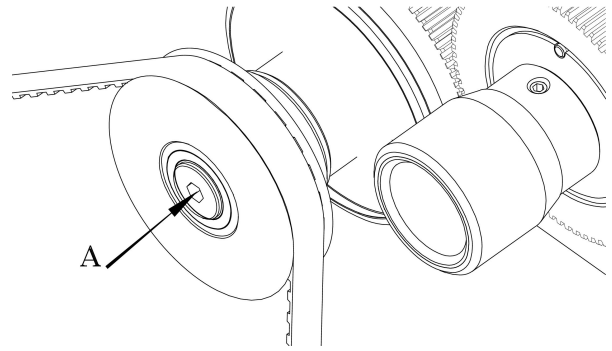

Fig 1
The nylon gear (A) in Fig 1 is designed to slip when the machine stops sewing. This is to prevent damage to the teeth of the nylon gear which contact the teeth of the metal gear.